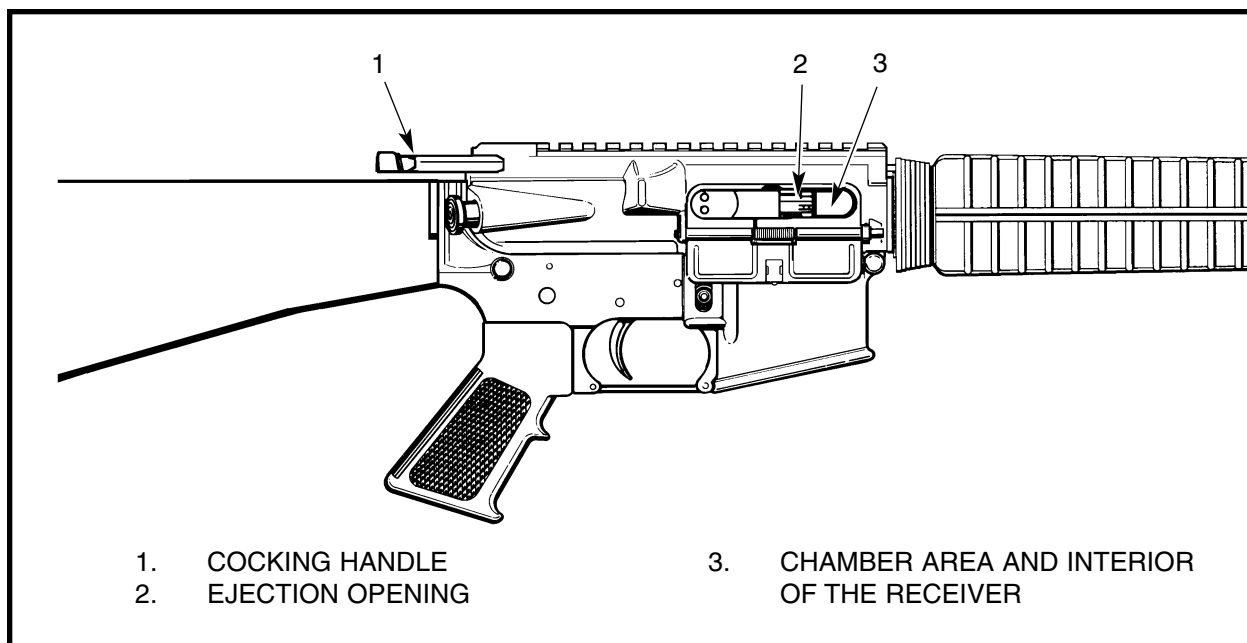

Figure 3-2-2 Proving the Weapon
- b. Pull the cocking handle (1) fully rearward, then hold it to the rear. See Figure 3-2-2;
- c. Check through the ejection opening (2) to ensure that the chamber and the interior of the receiver (3) are clear;